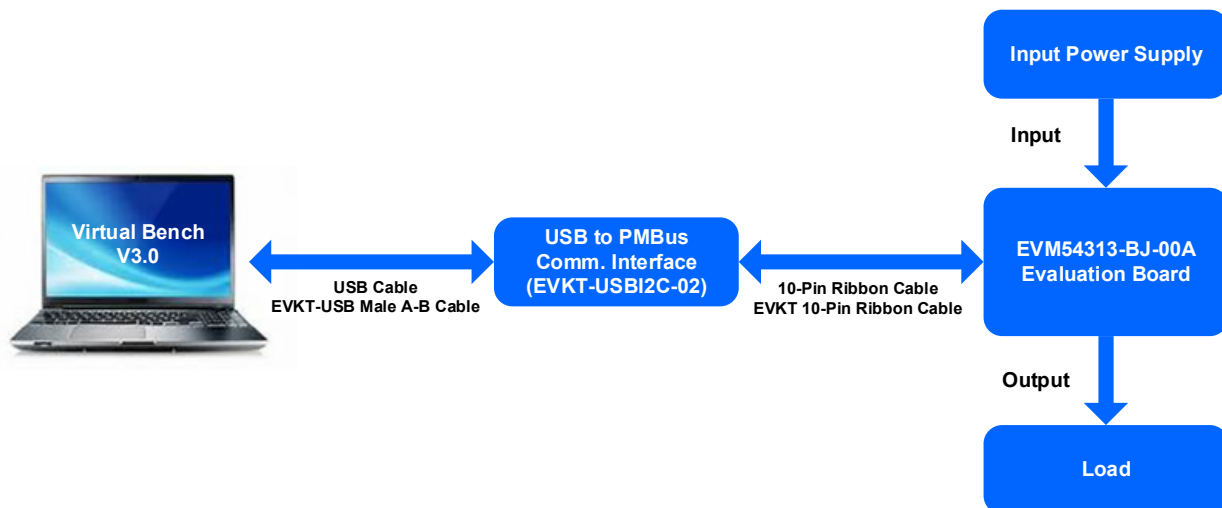

Figure 2: Hardware Set-Up
1. Connect the hardware (see Figure 2).